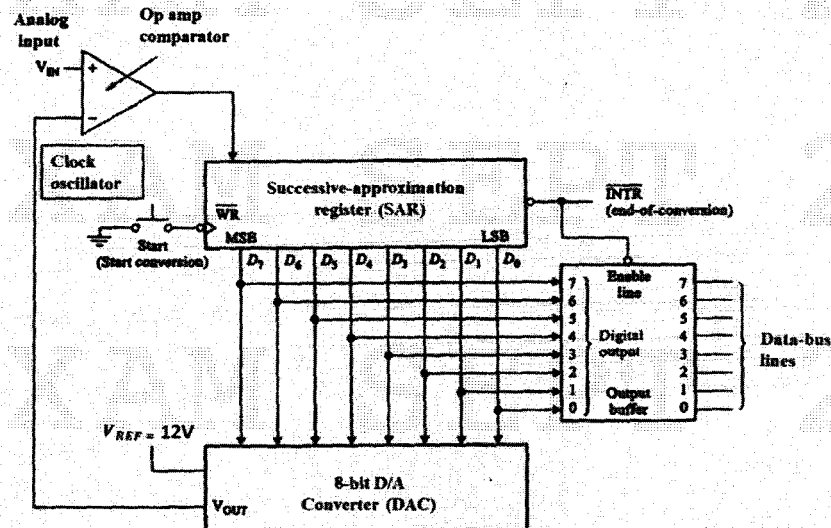

FIGURE Q1
- i. There are **SEVEN (7)** pages in this Question Booklet including the cover page and appendices.
1. A simplified block diagram of an Analog to Digital Converter (ADC) is shown in **FIGURE Q1**. It uses a Successive Approximation Register (SAR) with eight output lines D_0 - D_7 to produce different voltages. The SAR will produce output voltages if 12-volt reference voltage (V_{REF}) is supplied to the reference input line. The SAR requires eight clock pulses to perform the entire process.